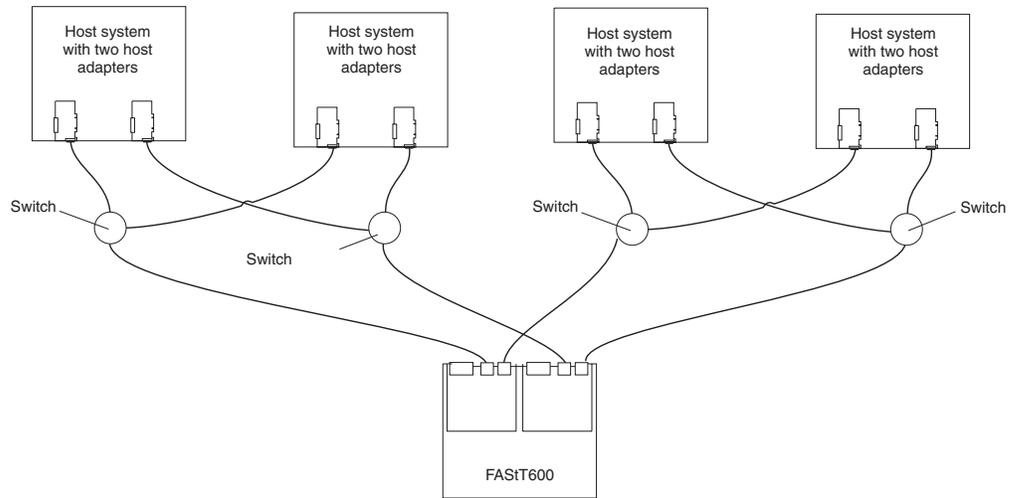

Figure 22. Example of two clusters
- Two clusters in Figure 22 on page 25